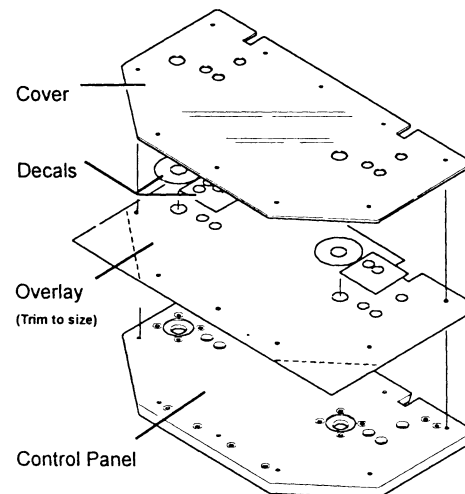

Figure 1: Overlay Installation
6. If there is an additional control panel cover, figure 1 (such as plastic or lexan) that will be utilized, cut any additional holes using the same template. *cover is not included in the kit.
Control Panel Overlay Installation (See Figure 1)
14. Install the control panel cover, figure.1. (if required).